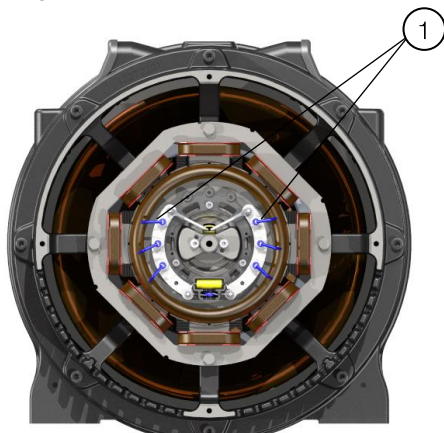

Figure 12.6: Diodes connection
2. Undo the bind (tin weld) of the 6 diodes with the exciter rotor, according to Figure 12.6.